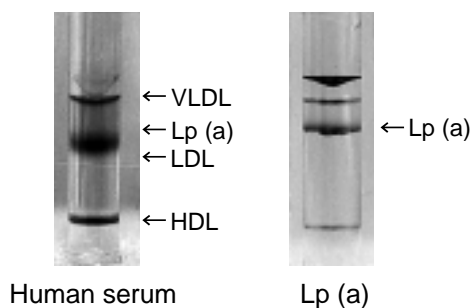

Fig. 1
- (1) Polyacrylamide-gel-electrophoresis* (Fig. 1)
- (2) Recovery of Lp (a) and HDL (Table 1)